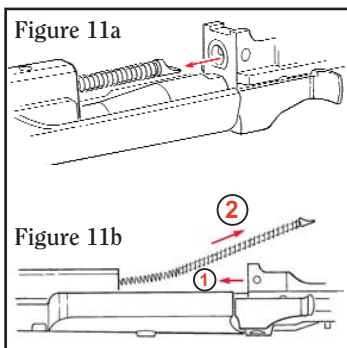

Figure 11a
6. Grasp the guide rod and recoil spring and move it forward to slightly compress the recoil spring and disengage it from the receiver. next lift the guide rod and recoil spring and remove them by pulling rearward. (See Figs. 11a and 11b.)